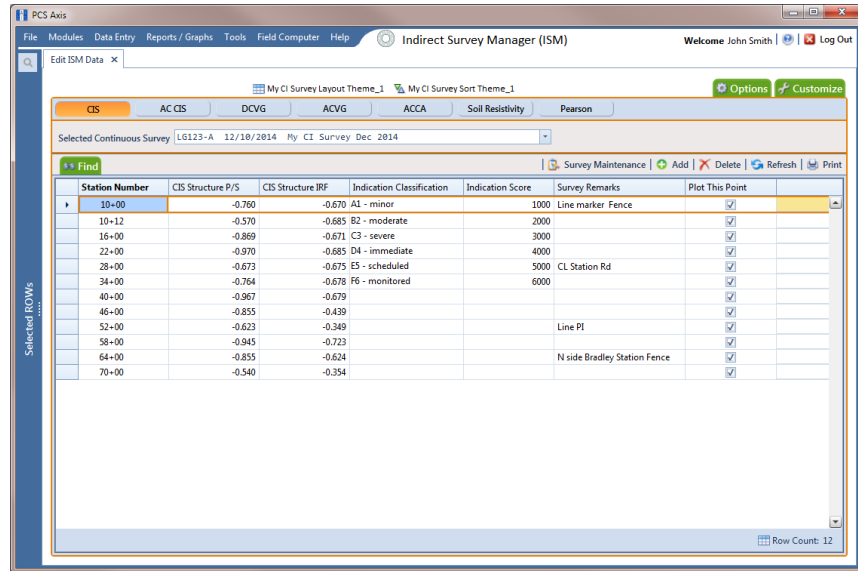

Figure 7-103. Edit ISM Data
- 3 Click **Data Entry > Edit ISM Data** to open the ISM data entry grid. Then click a button labeled with the type of continuous survey data you want to work with, such as the **CIS** button  (Figure 7-103).